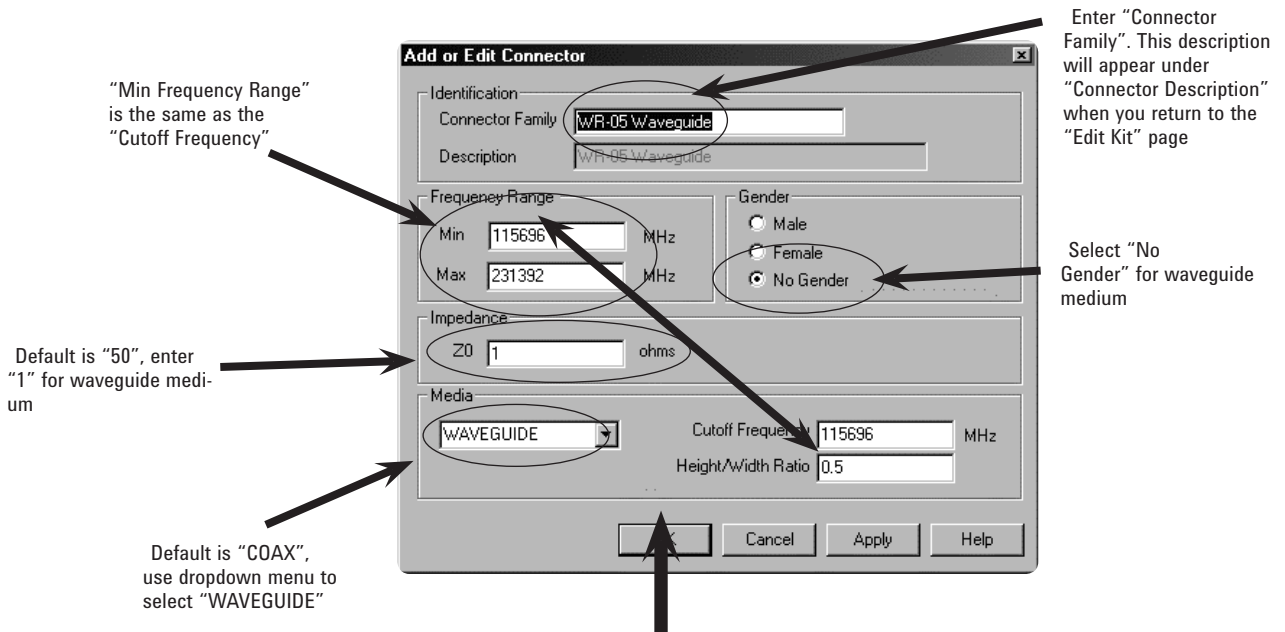

Figure 28. Enter connector (WG) description.
3. Enter "Connector Family," "Frequency Range" (Min. frequency = Cutoff frequency), 1 for "Z0;" select "No Gender," and "WAVEGUIDE" (Figure 28)